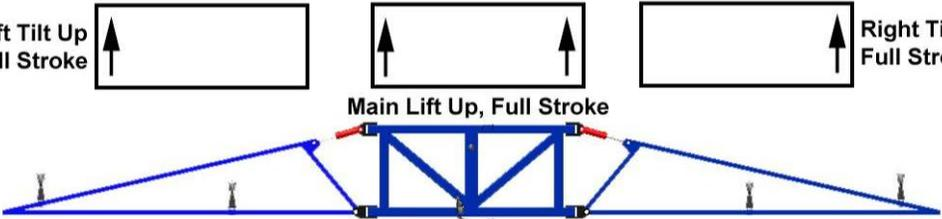

Figure 6: Pre-Install Boom Speeds
5. Not all sprayers will have the functions listed below in **Figure 6**.